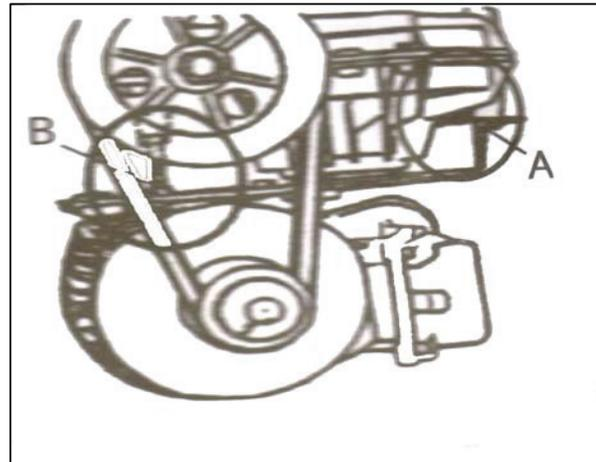

FIG 27
3. Check the tension of the drive belt and adjust if necessary. Adjust using nuts A and B to acheive proper tension (Fig 27).